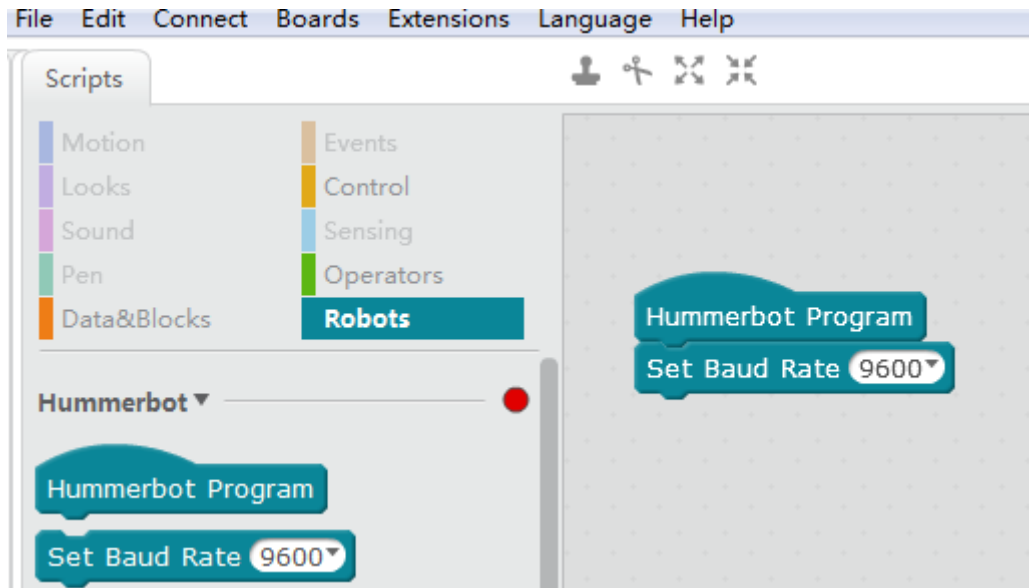

Figure 2-6
- 1) Firstly, drag the “Hummerbot main program” of the building block area to the script area with the mouse, and then drag “Set serial port baud rate 9600” to the “Hummerbot main program” building block, as shown in Figure 2-6.